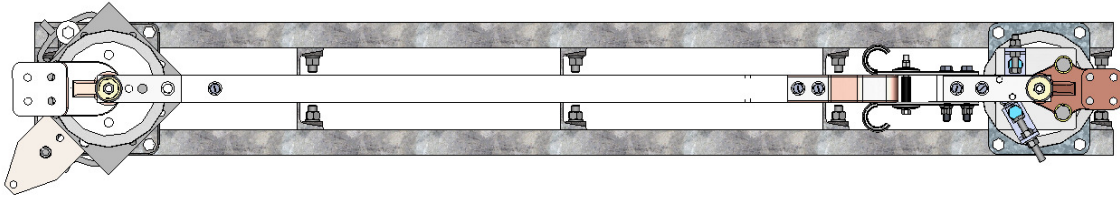

Figure 17: Switch – Fully Closed Position
- 6.3.1. Start with the disconnect switch and operating mechanism in the closed position. Refer to **Figure 17**.